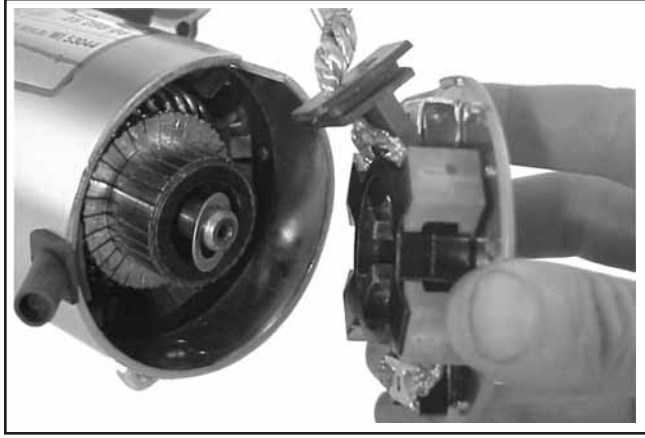

Figure 7-43. Removing Commutator End Plate Assembly.
5. Remove the commutator end plate assembly, containing the brush holder, brushes, springs, and locking caps. Remove the thrust washer from inside the commutator end. See Figure 7-43.